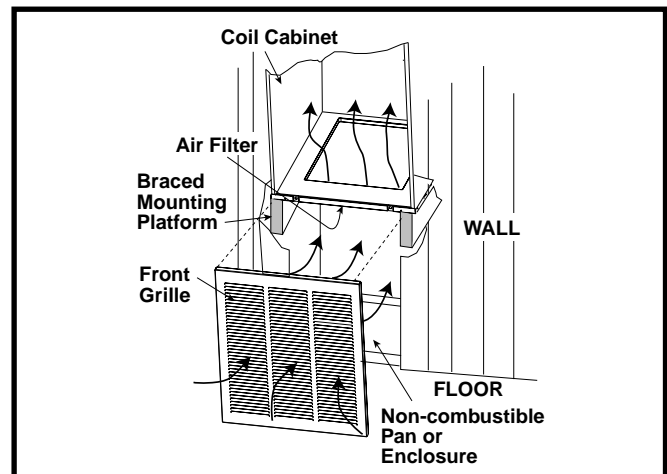

Figure 15. Over-the-Floor Return Air System
- If floor underneath furnace is made of combustible material, locate a pan fabricated of non-combustible material with 1\" upturned flanges under furnace return air opening (see Figure 15).
- Install return air grille in closet preferably at same level as upflow stand or below mounting platform. See Figure 15.